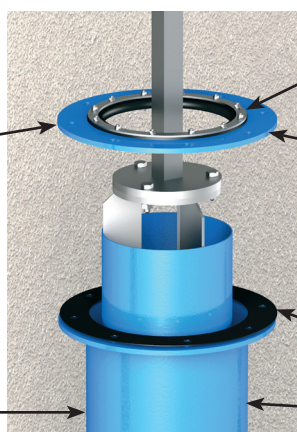

Fig. 11
4. Bring the seal support flange (5) up along with the gasket (6) and its attachment flanges (3), separating it from the body (1) (fig. 11).